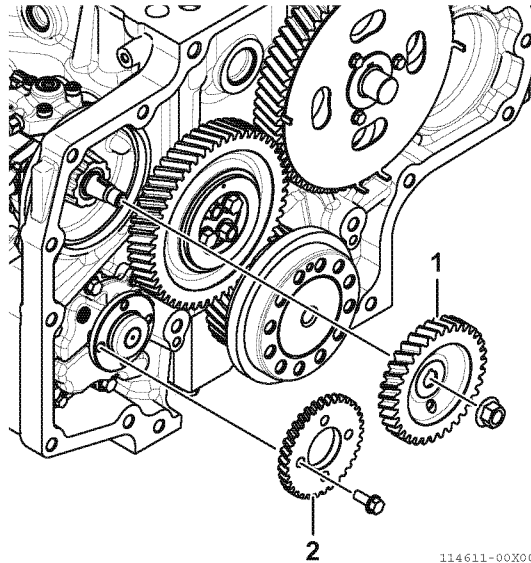

Fig.04-3
3. Use a gear puller to remove the supply pump drive gear (1, Fig.04-3).
4. Remove the lubricating oil pump drive gear (2, Fig.04-3).